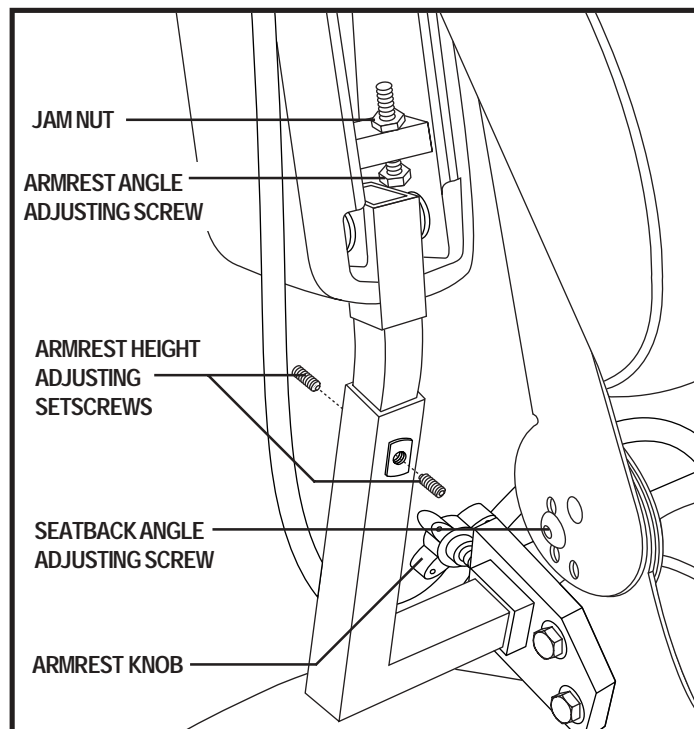

Figure 15. Seatback/Armrest Adjustment
1. Remove the adjusting screws from each seat hinge. See figure 15.
1. Locate the two armrest knobs on each side of the armrest receiver bracket. See figure 15.
1. Lift the armrest straight up so that it is perpendicular to the floor. See figure 15.
1. Loosen the two setscrews located on the armrest receiver. See figure 15